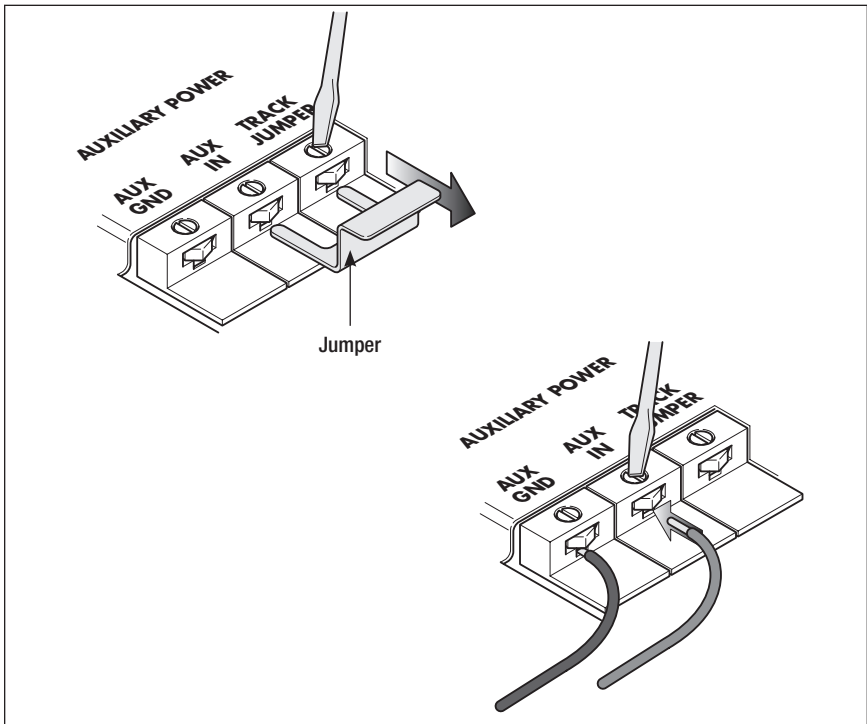

Figure 7. Power supply connections
You may choose to connect the switch to a separate power supply to operate the switch when track power is off or set to a low voltage. This is most beneficial to those operating in the conventional environment. The switch operates best at 5-18 volts (AC). Follow these steps and refer to Figure 7 to make the proper connections.